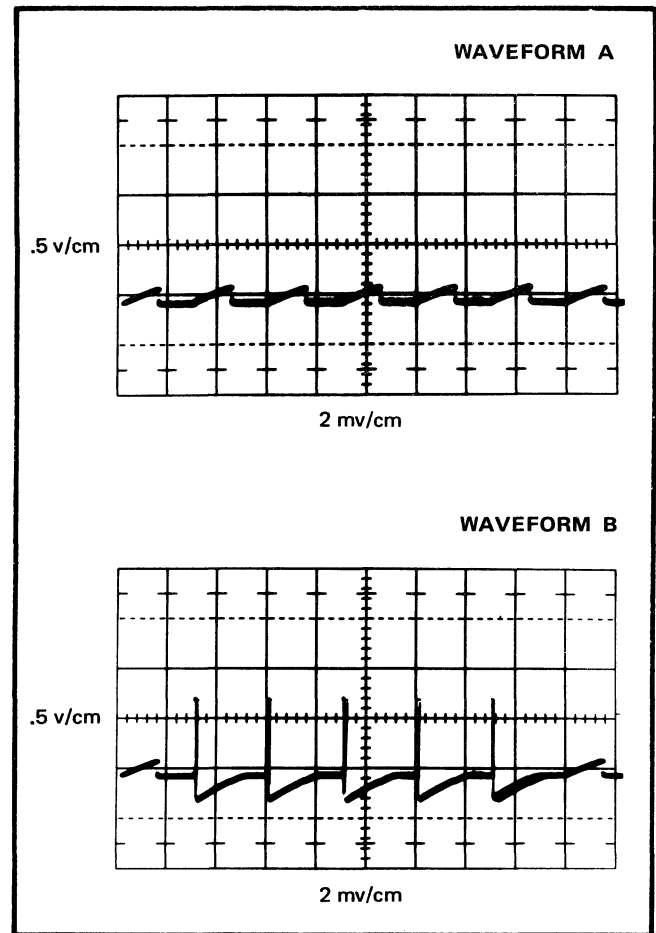
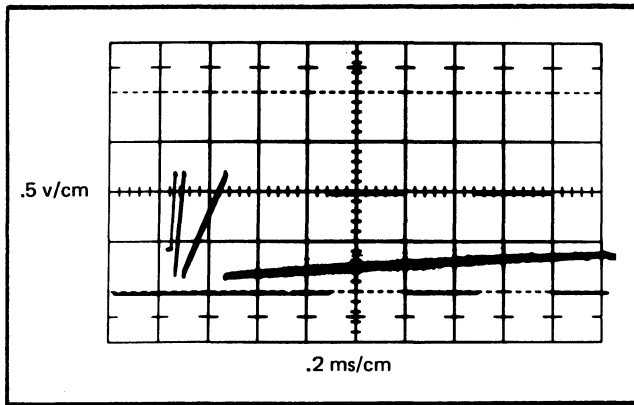

Figure 4-9. WAVEFORMS AT TP107
Figure 4-10. INPUT DIGIT "3" AT TP107
- b. Connect the oscilloscope input to TP107. With zero volts applied to the input of the A/D Converter (R102), the scope presentation should look like Figure 4-9, waveform A. Increase the input to the A/D Converter to +6.3524 vdc. The waveform at TP107 should look like Figure 4-9, waveform B. If the scope presentation does not indicate the positive going spikes of waveform B, the malfunction is in the Analog Comparator. If the waveform indicates the positive spikes of waveform B, proceed to Step c.
scope presentation should be similar to that shown in Figure 4-10. This is an expanded picture of one spike from Figure 4-9, waveform B. The number of sawtooth waves that make up each spike is determined by the value of each digit of the input voltage at R102. In the case of Figure 4-10, this corresponds to the "3" in the input voltage of +6.3524 volts. An incorrect digit indication at TP107 may be caused by a malfunction in the Current Controlled Oscillator, 16-State Binary Counter, or Ladder Driver Circuits.